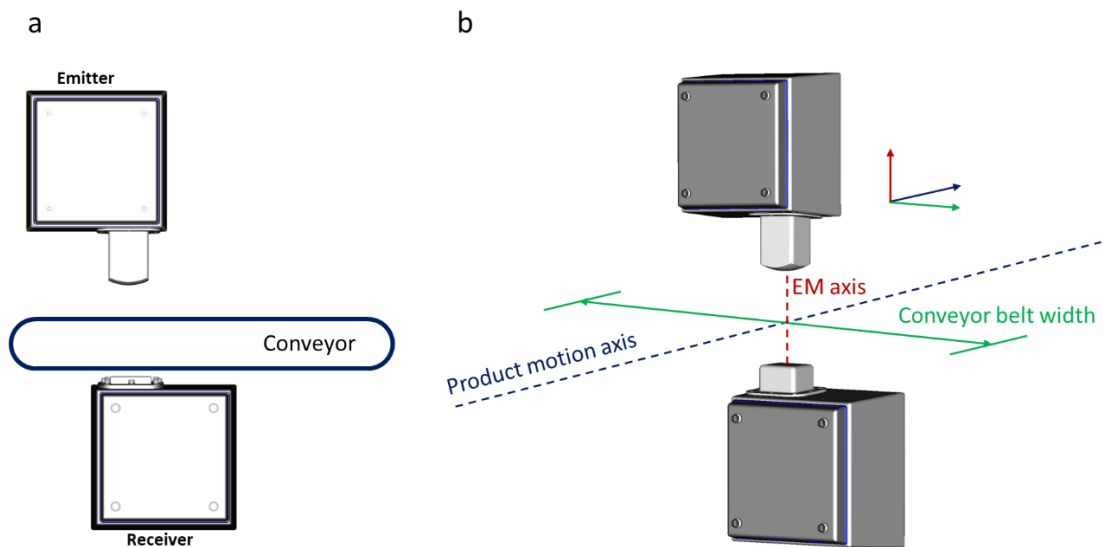

FIGURE 1: ORIENTATION OF THE SENSOR RELATIVE TO THE CONVEYOR BELT AND PRODUCT MOTION AXIS.
- ✓ The emitter is mounted above the conveyor belt. To ensure accurate measurements, the Teflon cap of the emitter should be installed close to the product (without touching the products). The receiver is placed underneath the conveyor belt, well aligned with the emitter as shown in Figure 1. It is strongly recommended to have as few as possible metal parts near the electromagnetic axis. The distance between the bottom of the emitter and belt should be 12 cm. The distance between belt and top of the receiver should be kept a minimum. Foresee sufficient margin near the receiver cover (> 2 cm) such that under all conditions moving parts (e.g., conveyor belt) are not touching the instrument.